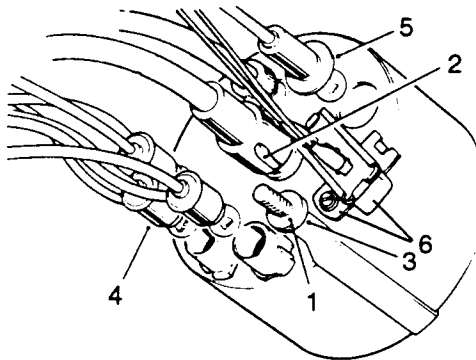

Fig O5.23
- (2) Refer to Fig O5.23. Remove the knurled nuts (1) at the speedometer clamp brackets.
- (3) Withdraw the earth lead eyelets (3) and shake-proof washers from the clamp studs.
- (4) Depress the spring clip and withdraw the speedometer cable (2).
- (5) Withdraw the speedometer clear of the instrument panel.
- (6) Withdraw the warning lamp (4) and illumination lamp (5) bulb holders.
- (7) Disconnect the leads from the instrument voltage stabiliser (6).
- (8) Remove the speedometer.